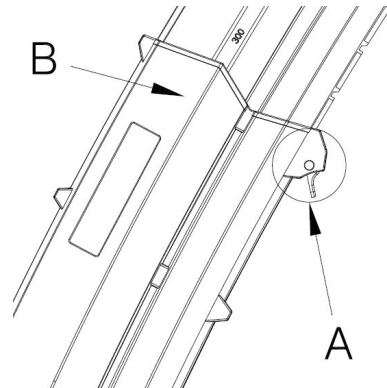

Fig. 7
Press the height adjusting button (A) and slide the Vacuum/Blower tube (B) to desired length. It can be extended up to a length of 32". See Fig. 7.